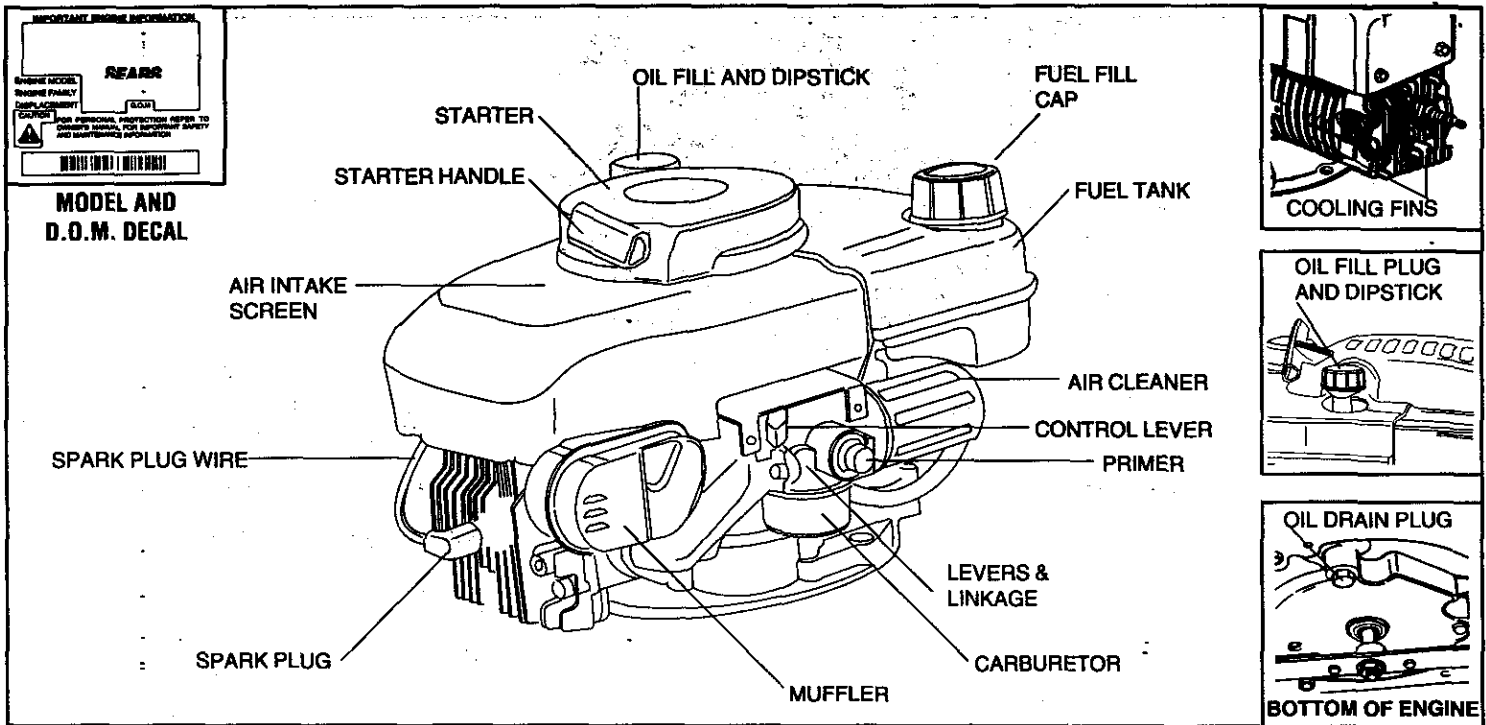

Figure 1
- B. Clean area around oil fill plug (see Figure 1).
⑤ CHECK THE FOLLOWING:
- B. Be sure spark plug wire is attached to spark plug (see Figure 1).
① Move engine control (see Figure 1) to HI Position.
② START ENGINE:
C. Remove oil drain plug and oil fill plug to drain oil (see Figure 1).